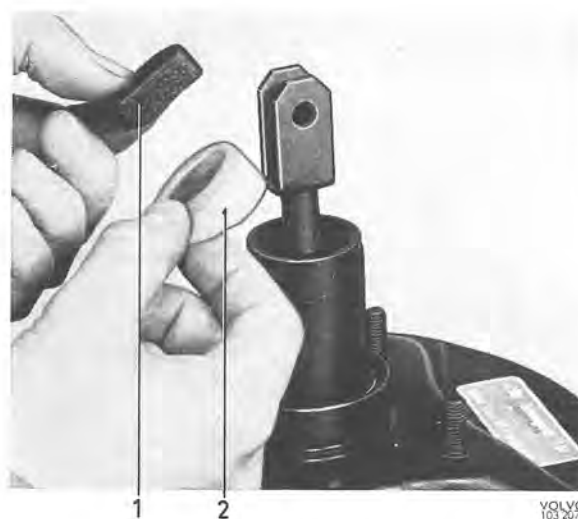

Fig. 5-76. Replacing cleaner and damper
7. Remove the damper (1, Fig. 5-76) and the air cleaner (2).